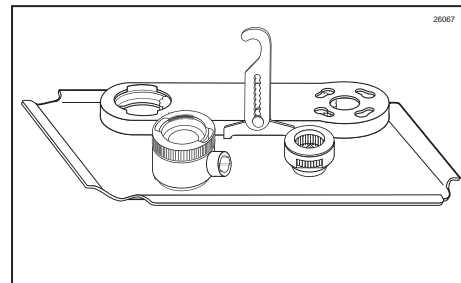

Figure 129
3. Remove each part from the sanitizer solution. Place the items on a sanitary tray to air dry. (See Figure 129.)